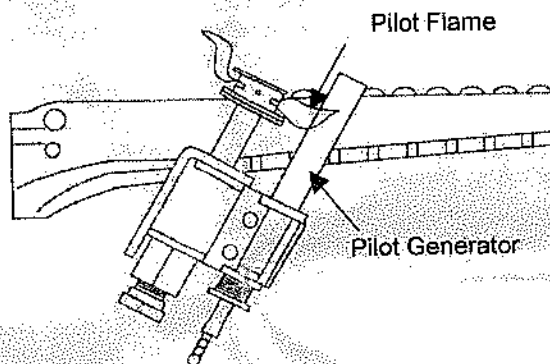

Fig. 7
7. Pilot flame should envelop 3/8 to 1/2 inch of pilot generator. See Fig. 7.